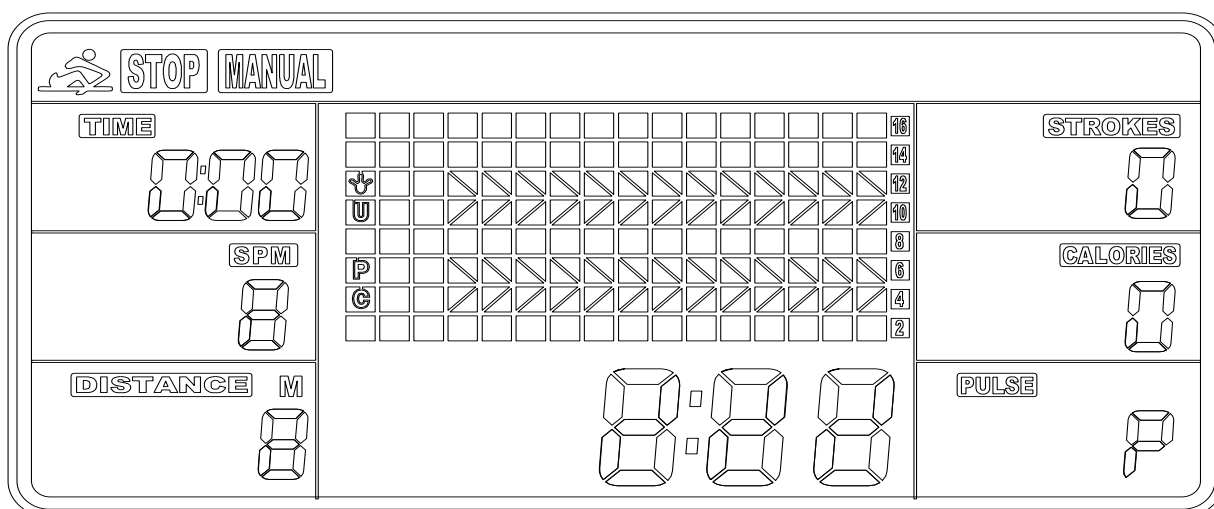

Fig. 4
(1) MANUAL (Fig. 4): There are 2 options in manual mode.